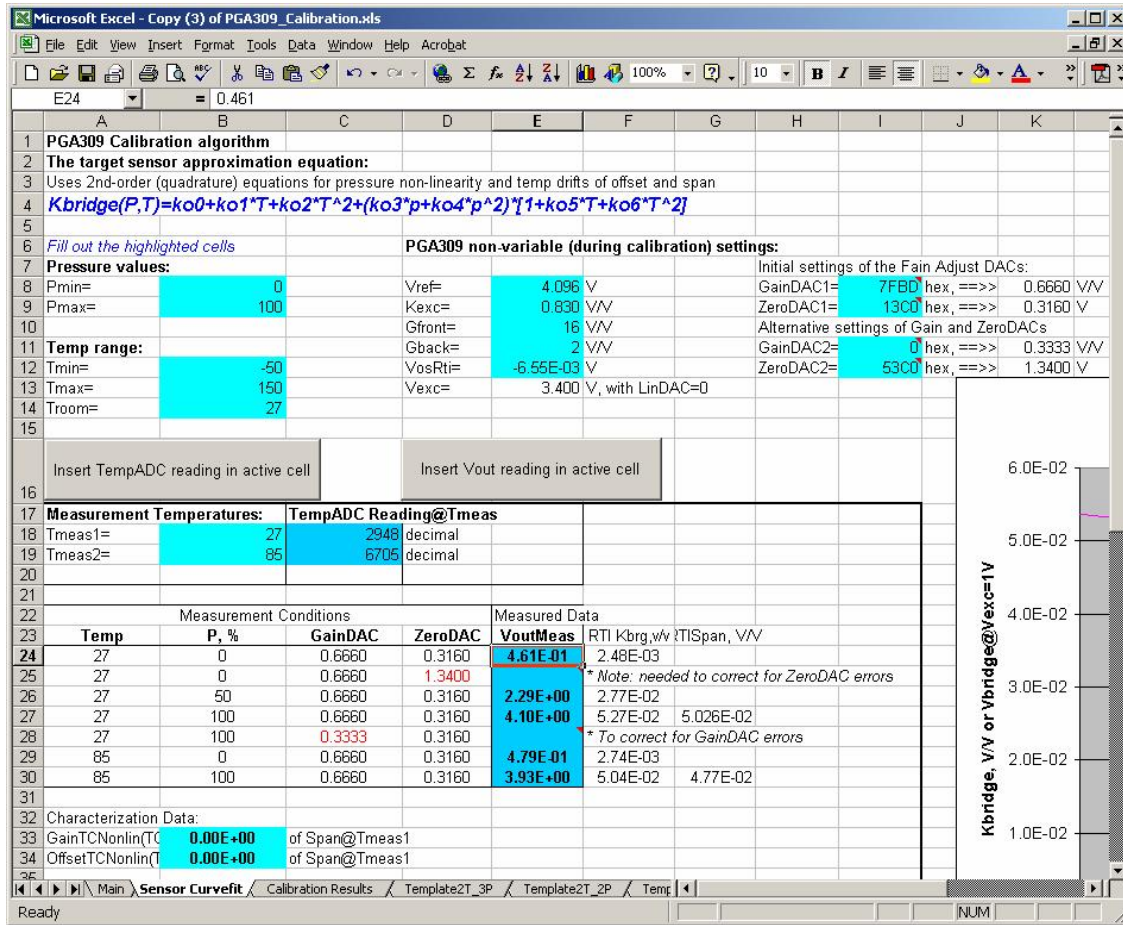

Figure 29: Sensor Curvefit Worksheet
2) The "Sensor Curvefit" Worksheet (Figure 29) is the place where all results of the calibration measurements are calculated. The fields colored light blue contain pre-selected values, such as PGA309 Gain and Offset settings, the temperatures where the measurements are made and sensor pre-characterized parameters (such as span drift non-linearity). The dark-blue fields are the ones where the measured values are entered at each stage of the calibration. The framed area is filled out when "Prepare Calibration Sheet" is clicked on the previous page. It contains the cells with calculations specific to the chosen calibration algorithm. The two control buttons paste in the current worksheet cell either the last Vout reading or the last Temp ADC value from the Board Control Program. This saves the manual typing of the numbers. However, all the data can be also entered manually if the measurements are made with other equipment than the PGA309DK PC Interface Board.